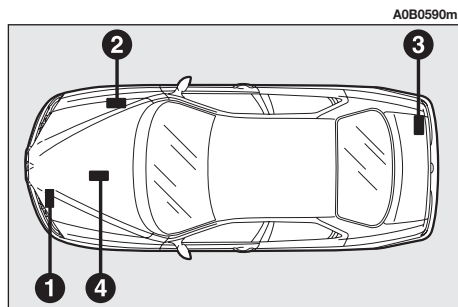
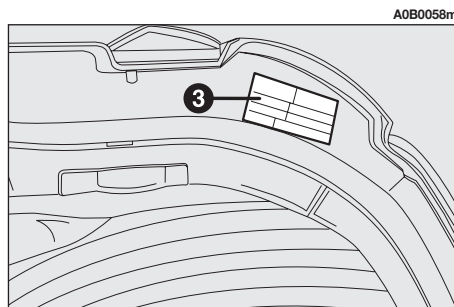

fig. 1
fig. 2
- Saloon versions = **fig. 1**
- Sportwagon versions = **fig. 2**
On the Saloon versions, the plate is applied in the internal part of the luggage compartment (**3-fig. 1**), while on the Sport-wagon versions it is applied on the right-hand internal edge of the tailgate (**3-fig. 2**). The plate carries the following data (**fig. 3**):